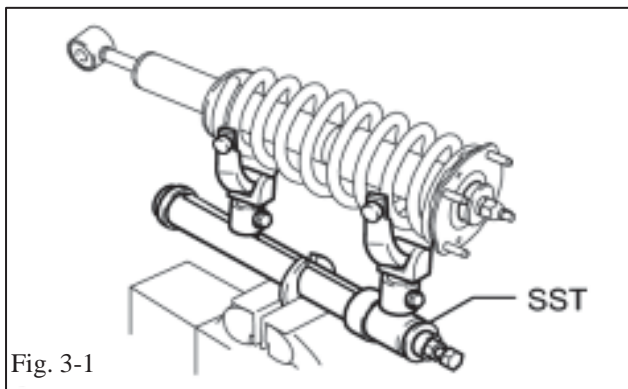

Fig. 3-1
- (a) Using one of the SST's listed, compress the coil spring.(Fig. 3-1)
- (1) Approved SST: 09727-30021, 09727-00010, 09727-00021, 09727-00031
- (2) Make sure that the suspension support is free from the coil spring.